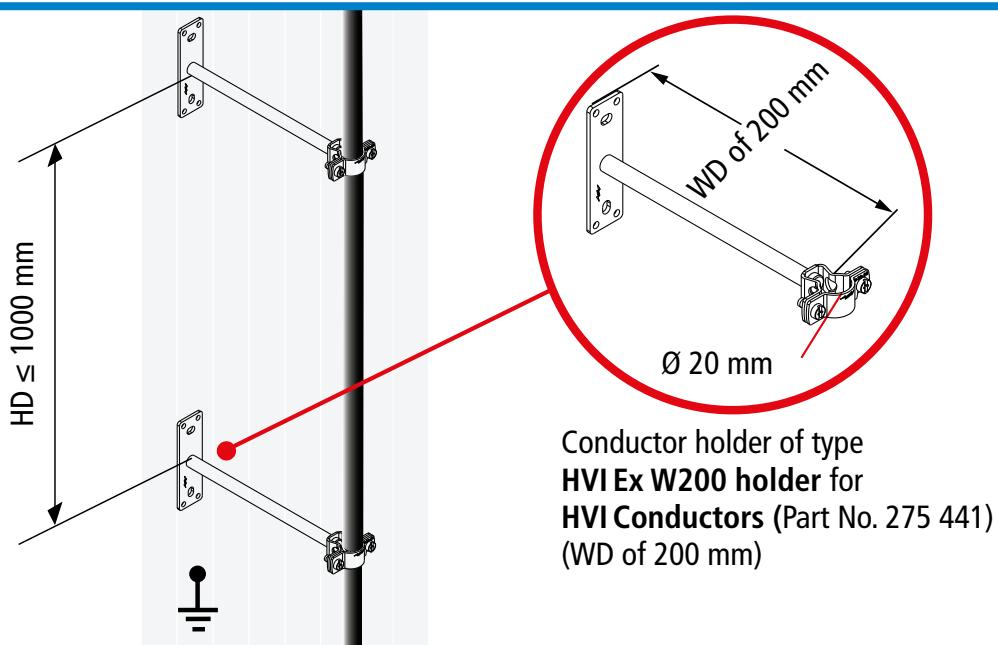

Figure 2 Installation in parallel to an earthed metal façade: holder distance of 1000 mm; wall distance of 200 mm
If metal conductor holders of type **HVI Ex W200 holder** holder with a wall distance (WD) of 200 mm (Part No. 275 441) and a maximum holder distance (HD) (installation distance) \leq 1000 mm (see Fig. 2) are used, discharges can be reliably prevented.